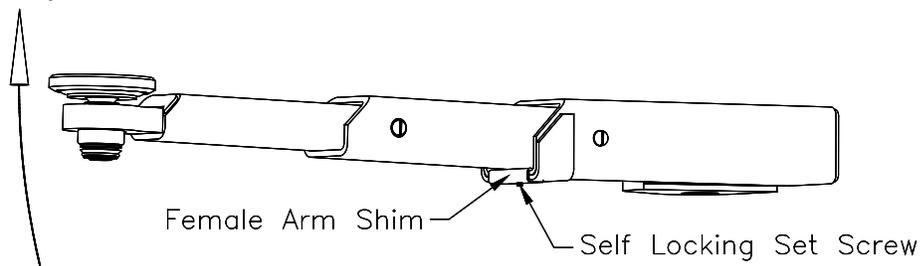

Fig 11 – Arm Shim, 3-Stage
27. Extend the arm fully and lift up on the male portion, Fig 11.